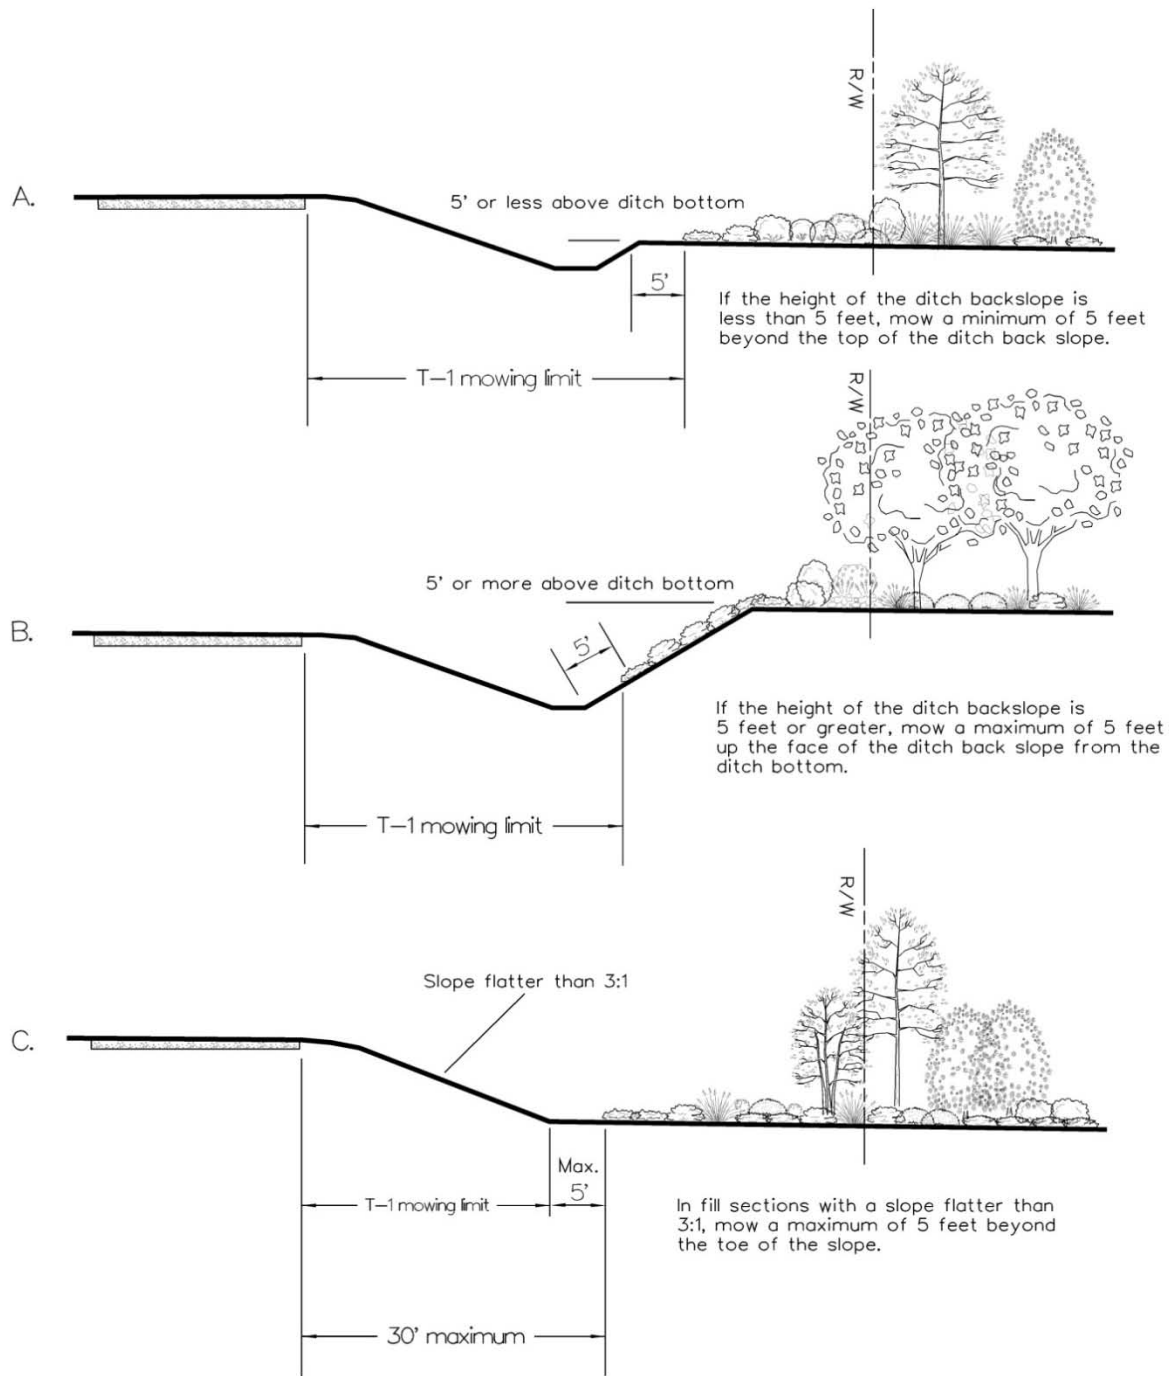

Figure 19. Normal roadside mowing limits: Rural and limited access.
- a. Normal roadside mowing limits are confined to within 5 feet beyond the top of the ditch back slope if the height of the ditch back slope is less than 5 feet (Figure 19, View A).
- b. Where the ditch back slope is 5 feet or greater in height, the mowing limit is a maximum of 5 feet up the face of the ditch back slope from the bottom of the ditch (Figure 19, View B).
- c. In normal fill sections not requiring slope mowing (slopes flatter than 3:1), the mowing limit is a maximum of 5 feet beyond the toe of the fill slope (Figure 19, View C).